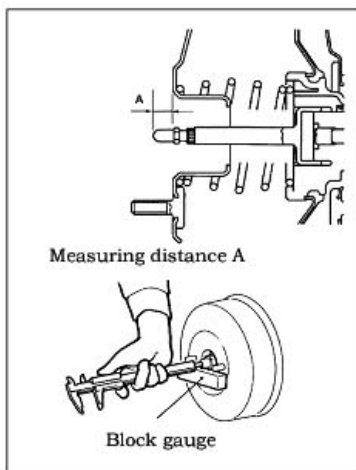

Fig. 16-29
(2) Adjustment of clearance between brake booster push rod and primary piston
①. Measurement A value (see Fig.16-29).